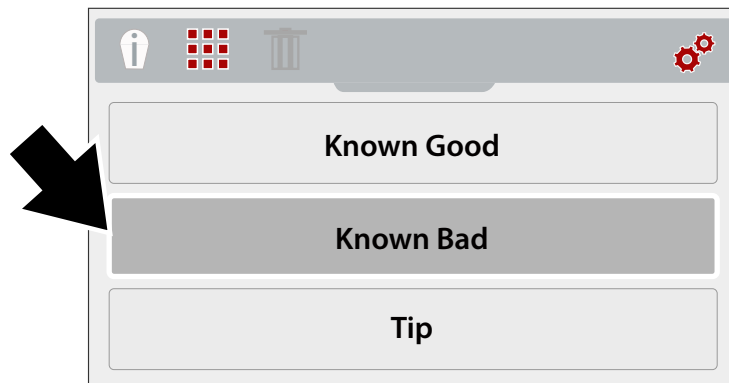

Figure 3-14 Expert Tips Results Menu
- The expert tips results menu displays (Figure 3-14).